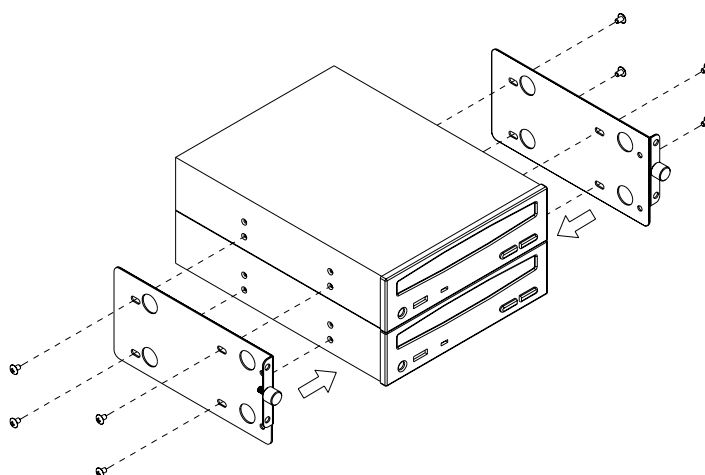

Figure 2.6 Installing the disk drives
2. Insert the disk drive in place in the disk drive housing, and then fix it with the screws provided. (Figure 2.6)